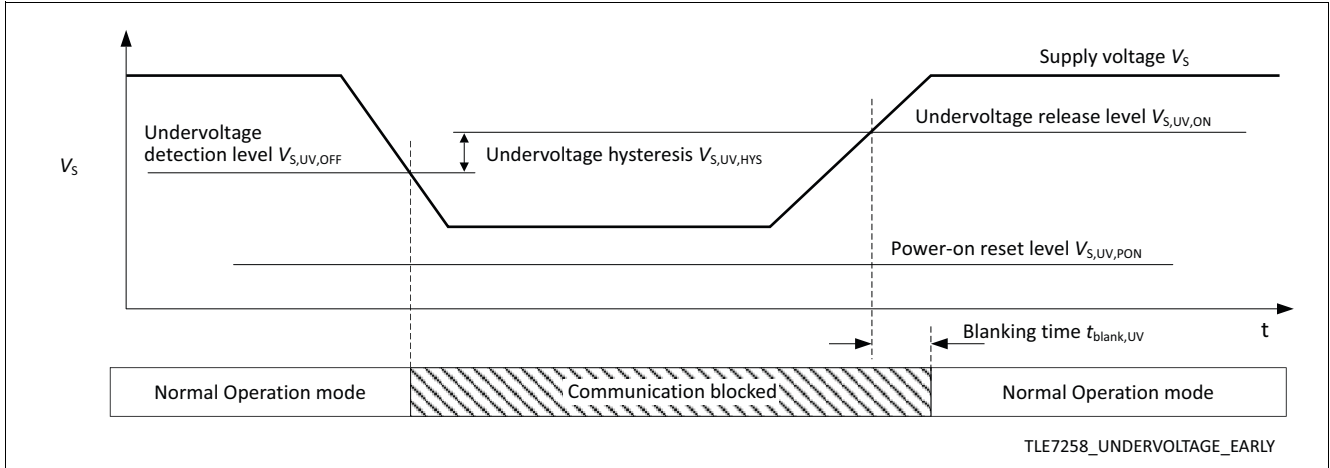

Figure 11 Early undervoltage detection
- In Normal Operation mode the TLE7258 blocks the communication between the LIN bus and the microcontroller when detecting undervoltage events. However, no mode change will occur. After V_S rises above the undervoltage release level $V_{S,UV,REL}$, the bus communication interface will be released when the signal on the TxD input goes “high”. See Figure 11.